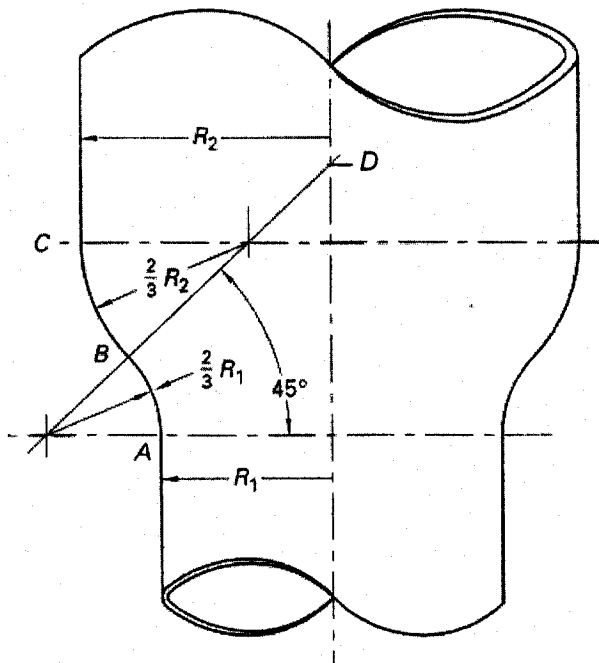

Figure 2.
2. A pipe enlargement joint, as shown in Figure 2, was designed and put into service carrying a gas flow under high pressure. The joint consisted of two constant-radius knuckle regions, the first between A and B, and the second between B and C. The increase in radius achieved by the joint was  $R_2 = 1.5 R_1$ . Unfortunately, the joint fractured in the knuckle region between A and B.
- Determine the stresses  $\sigma_m$  and  $\sigma_t$  in the structure immediately above and below each of the points A, B and C, in terms of  $pR_1/t$  (12 stresses in total) and list them in a table. (18)
- Use the result of (i) to help explain the failure of the joint. (2)